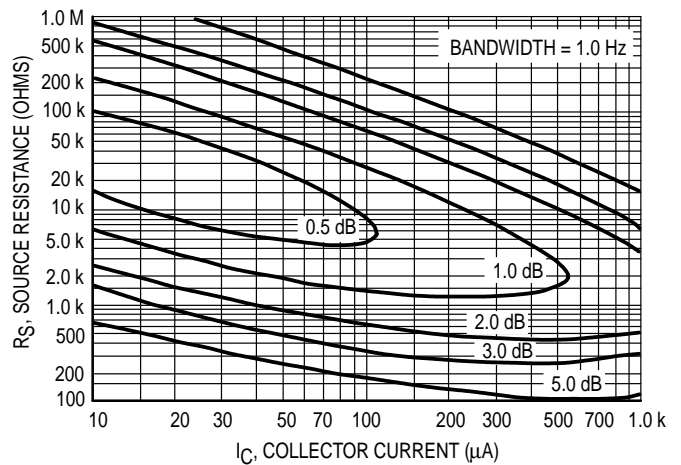

Figure 4. Narrow Band, 1.0 kHz
- $I_n$  = Noise Current of the Transistor referred to the input. (Figure 4)